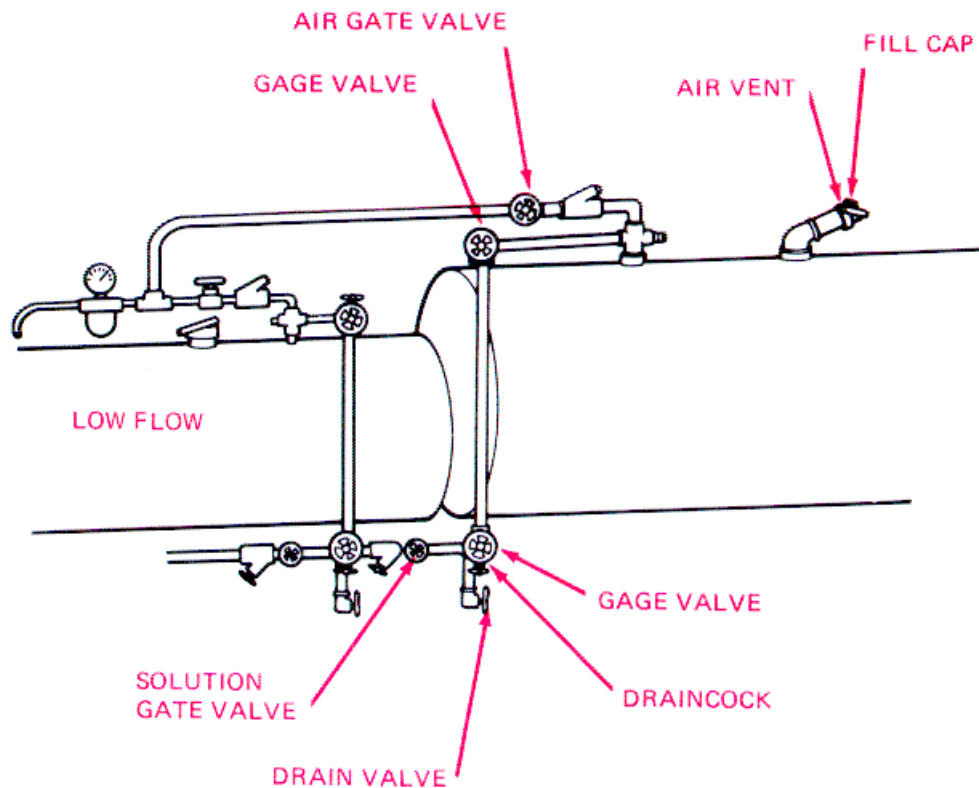

Figure 2-21. Filling the Hi-Flow Admix Tank.
- (1) Check the mix design to see how much admix is required per bag of cement. Multiply by the number of bags of cement you will be using.
- (2) Put this amount of admix (enough for as many bags of cement as you will use) into the clean container.
- (3) Add clean water until the number of quarts of solution equals the number of bags of cement.
- (4) Example: If you need 7 oz (207 ml) of admix per bag, and expect to use 60 bags of cement, put 420 oz (12421 ml) of admix in the container. Add enough clean water to make 60 qts (57 l) of solution.
c. Putting Solution into the Hi-Flow Tank. (See fig. 2-21.)
- (1) Close the drain valve, the air gate valve, and the solution gate valve. (Turn them all the way clockwise.)
- (2) Open both gage valves. (Turn them all the way counterclockwise). Check that the vent and draincock on the gage valves are closed.